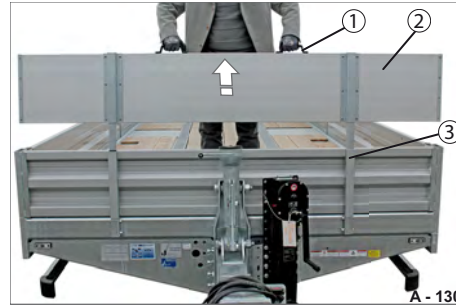

Fig. 187 Removal
- ▶ Pull the spring pin bolts (Fig. 187/1) out of the posts (Fig. 187/2).
- ▶ Carefully pull the platform gate attachment (Fig. 187/2) by the handles (Fig. 187/1) out of the posts (Fig. 187/3).